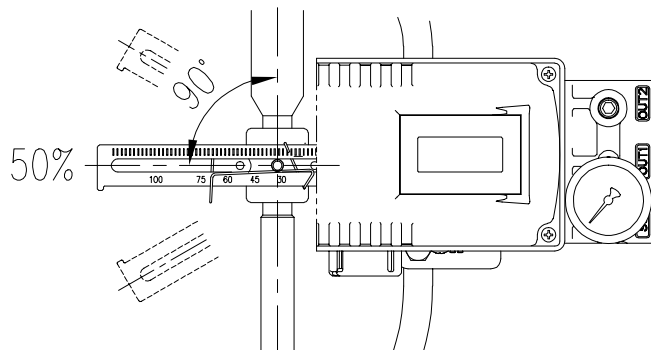

Fig. 3-12: YT-3300L / 3350L Feedback lever and valve stem
- 7) Check if feedback lever is vertical to the valve stem at 50 % of the valve stroke. If it is not vertical, adjust the adapter holder on the actuator's stem to make vertical – **DO NOT TIGHTEN THE ADAPTER HOLDER COMPLETELY.** Improper installation may cause poor linearity. Refer to Fig 3-12.